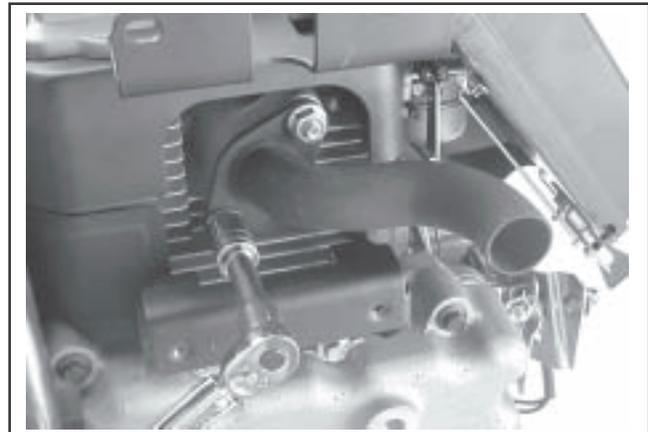

Figure 11-62. Installing Muffler Inlet Pipe.
1. Install new exhaust gasket, exhaust manifold or muffler inlet pipe to exhaust port studs. Install the hex flange nuts on studs and torque to **24.4 N·m (216 in. lb.)**. See Figure 11-62.